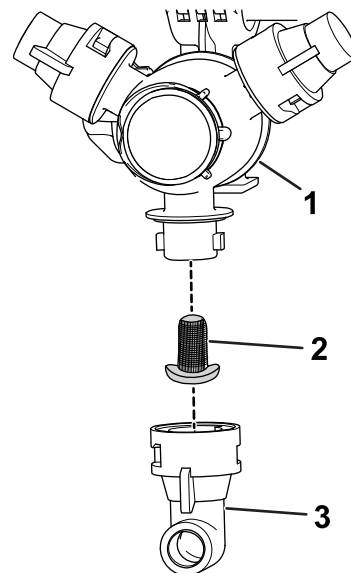

Figure 116
2. Remove the nozzle from the spray turret (Figure 116).
3. Remove the old nozzle filter (Figure 116).
4. Install the new nozzle filter (Figure 116).
5. Install the nozzle onto the spray turret (Figure 116).